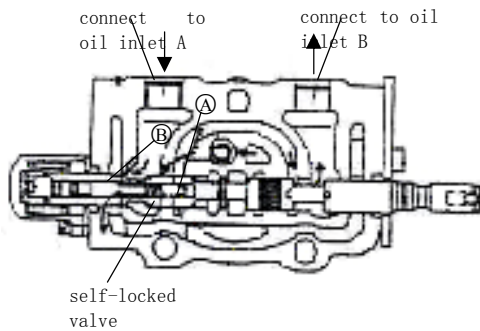

Figure 2-22
(A) When pump is working, push valve disc in, liquid from main pump flow into tilt cylinder through joint b, liquid returned from cylinder play on piston through oil pore a. Liquid returns to tank through pore a or b of valve disc. See figure 2-22.